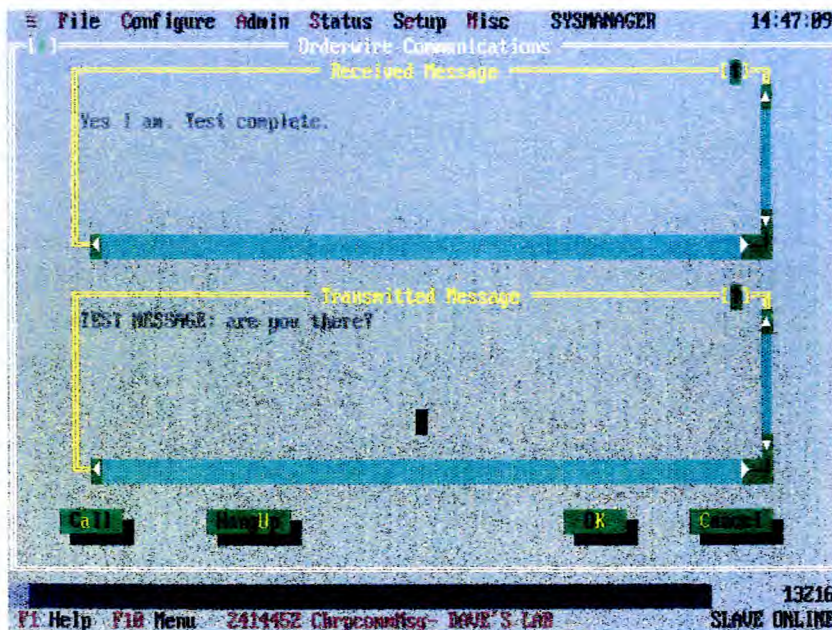

Fig 14
14.4 Both master and slave screen show the exchange of messages as shown in Fig 14.